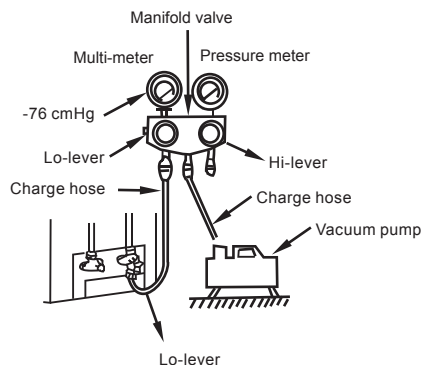

Fig. 7-4
- Expel the air with a vacuum pump (Refer to Fig.7-4) (Please refer to its manual for the way of using manifold valve)